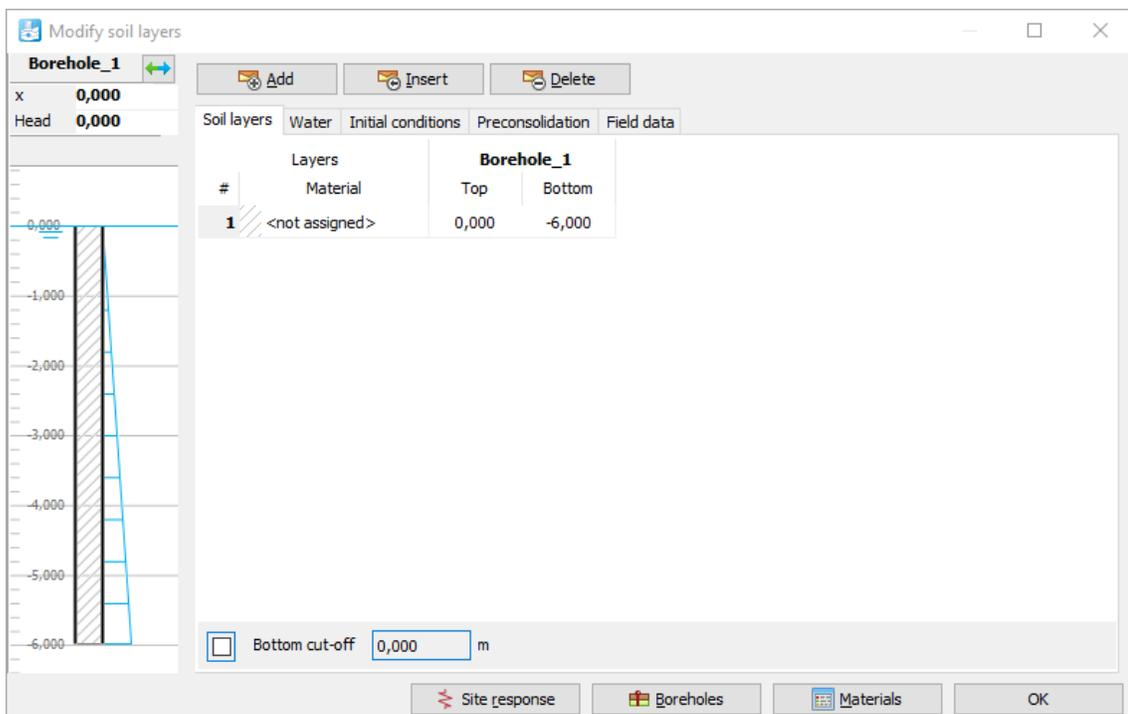

Figure 29: The soil stratigraphy in the **Modify soil layers** window
1. Click the **Create borehole** button  and create a borehole at  $x = 0$ . The **Modify soil layers** window pops up as shown in Figure 29 (on page 40).